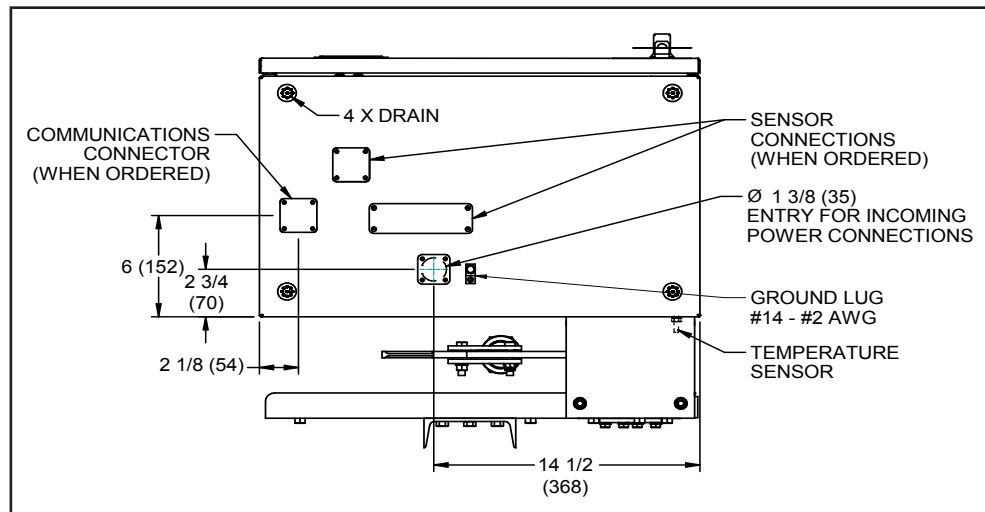

Figure 18. The bottom view of switch operator showing the ground lug, dimensions are inches (mm).
**STEP 9.** Ground the enclosure. Use the ground lug (see Figure 18) located on the bottom of the switch operator enclosure to ground the enclosure. The ground lug will accommodate up to #2 copper or aluminum, solid or stranded wire.
(a) Locate the conduit hole that accepts a 1-inch (25-mm) conduit adapter on the bottom of the floor of the switch operator enclosure (see Figure 18 on page 38).